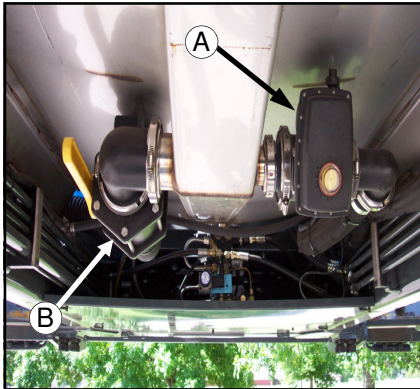
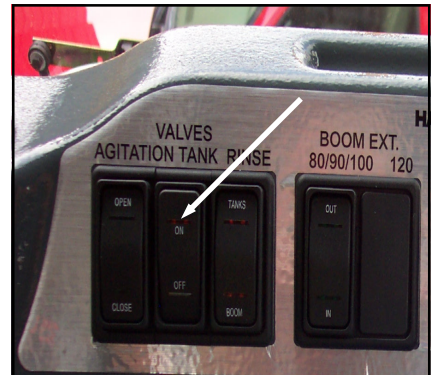

FIG 63-2
FIG 63-3
**SOLUTION TANK VALVE**— The solution tank valve (fig. 63-2, item A) controls the amount of solution coming out of the tank. The valve is controlled from inside the cab with the TANK VALVE switch (fig. 63-3) located on the right hand console.
**TANK SUMP VALVE**— The tank sump valve (fig. 63-2, item B) is a ball type valve that has to be turned on and off manually. This valve is to allow the fluid into the tank from the fill option.